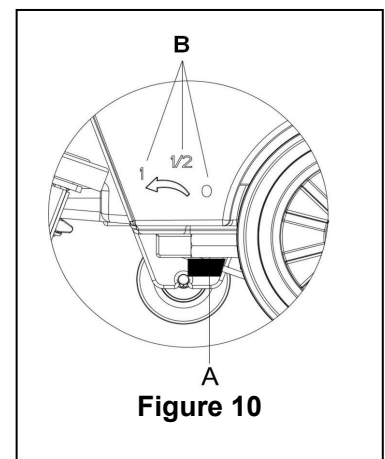

Figure 10
Regulating the ball valve handle (A, Figure 10) must be done under the condition when the power switch (41) is in the "O" position.
12. The volume of the water flow may be adjusted through the ball valve handle (A, Figure 10) according to the amount of water practically required for scrubbing the floor.
2. Hold the safety switch (1) (according to the way shown in Figure 10), push to move the machine, and start the cleaning job.